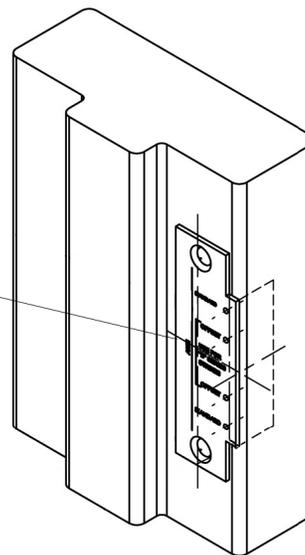

Figure 6
2. CENTER template on latchbolt centerline (see Figure 6).